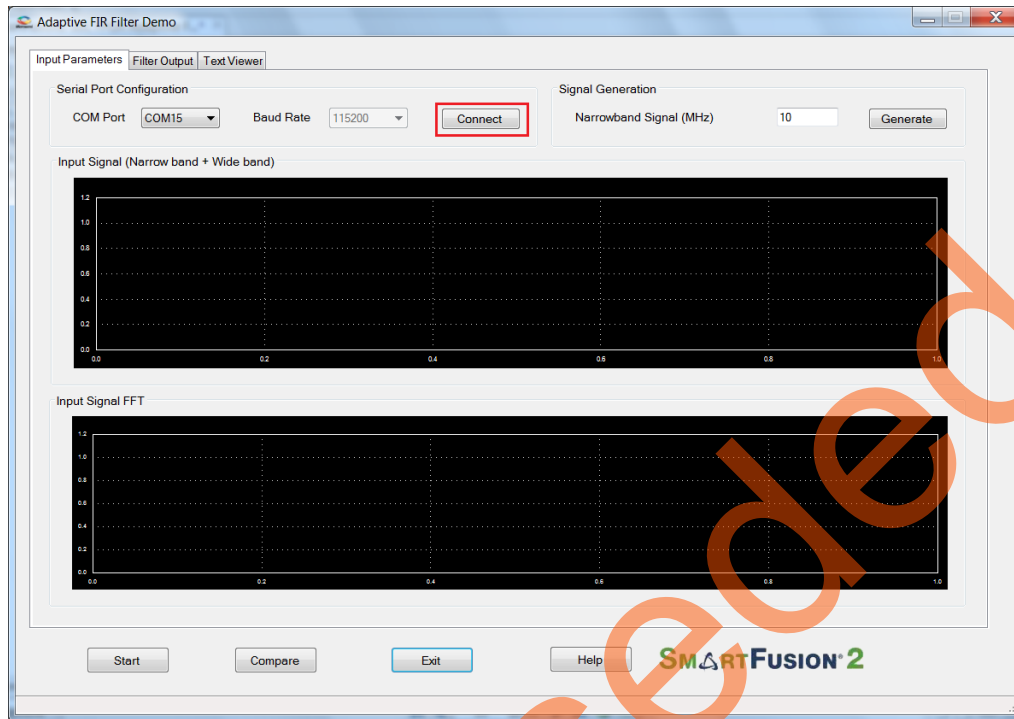

Figure 16 • Serial Port Configuration
The Adaptive FIR Filter Demo window is displayed, refer to Figure 16.
2. **Serial Port Configuration:** The COM port number is automatically detected and baud rate is fixed at 115200. Click **Connect**. Refer to Figure 16.